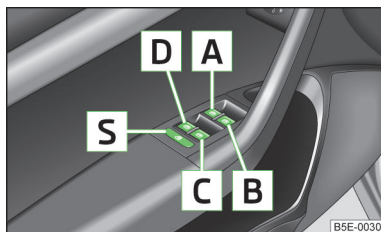

Fig. 23
- It is recommended to deactivate the electrical power windows in the rear doors (safety pushbutton) **S** » Fig. 23 on page 42 when children are being transported on the rear seats.
Buttons for the electrical power windows » Fig. 23.
The buttons for electrical power windows in the rear doors can be deactivated by pressing the safety pushbutton » Fig. 23. The buttons for the electrical power windows in the rear doors are activated again by pressing the safety pushbutton again.
- Hold the button  in the opening position » Fig. 23 on page 42.
- Hold the button  in the closing position » Fig. 23 on page 42.